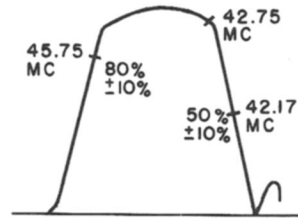

Fig. 172—T-2—T-104 Response
19. Remove the oscilloscope probe from R-127 and R-129 and connect to the oscilloscope terminals of the I-F test block. Increase the oscilloscope gain to maximum and increase the sweep output, if necessary, to secure a usable response. Adjust T-2 bottom, C-102, and T-104 to obtain response shown in figure 172.